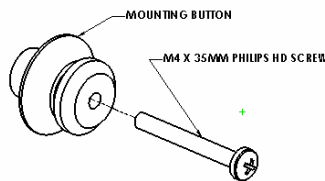
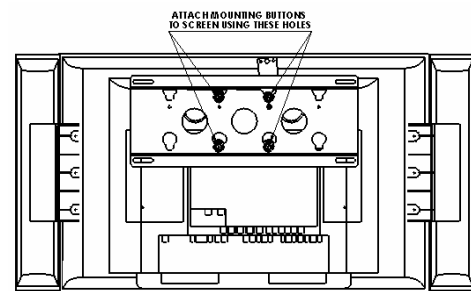

Figure 3
Figure 4
2. Attach mounting buttons to display using M4 x 35 screws provided (see Figure 3 & Figure 4).